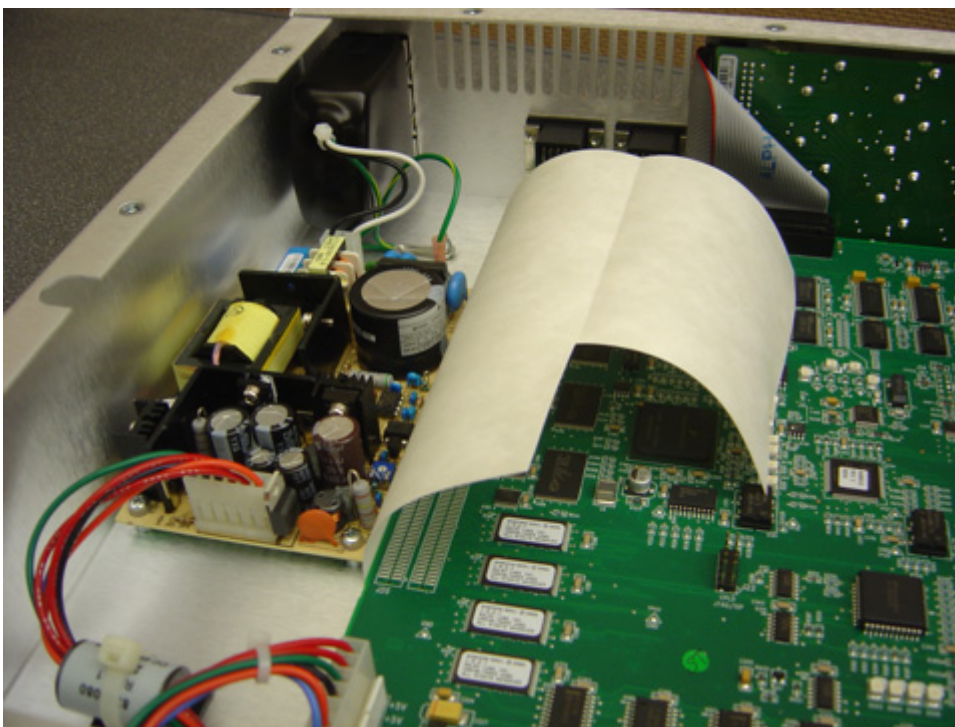

Figure 3 Power Supply Cover Folded Back
4. Fold back protective cover from the power supply area. Figure 3 shows the protective cover folded back.